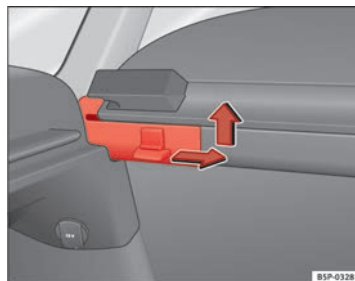

Fig. 125 Removing the rear shelf
- Press the side pin in the direction of the arrow, lift the cover and remove it ⇒ fig. 125.